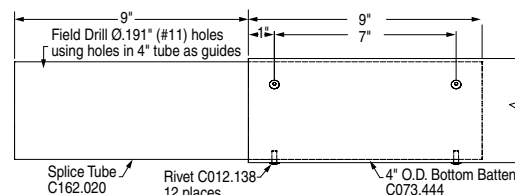
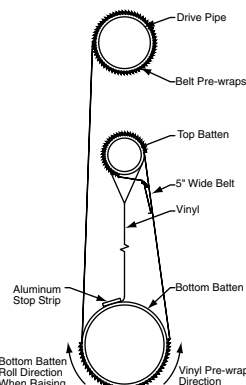

Figure 5
Figure 6
- ③ Assemble 4" bottom batten as shown on shop drawings using 3 3/4" OD x 18" splice tubes. (See Fig. 5).
- ④ Using a chalk line, mark along the length of the assembled 4" batten tube to be used as a guide when attaching the curtain.
- ⑤ Attach the square raw bottom edge of curtain fabric to the 4" bottom tube using adhesive strip. Make sure the curtain is flat, square and rolled straight.
- ⑥ Curtain fabric is 6" ± wider than 4" bottom tube. Attach fabric so equal amounts of fabric overhang each end. Do not allow fabric to extend onto the heat seamed edging of curtain fabric. Cut 4" bottom tube if necessary.
- ⑦ Refer to shop drawing and mark finished height of curtain. The typical curtain height received is 20" longer than shown on shop drawing, allowing 1 1/2 ± revolutions around pipe.
- ⑧ Roll curtain on tube to desired position. Attach stop strip in predrilled holes with self-tapping screws supplied. Installer should use a file to round the corners of the stop strip to lessen the possibility of curtain tears (see Fig. 6).